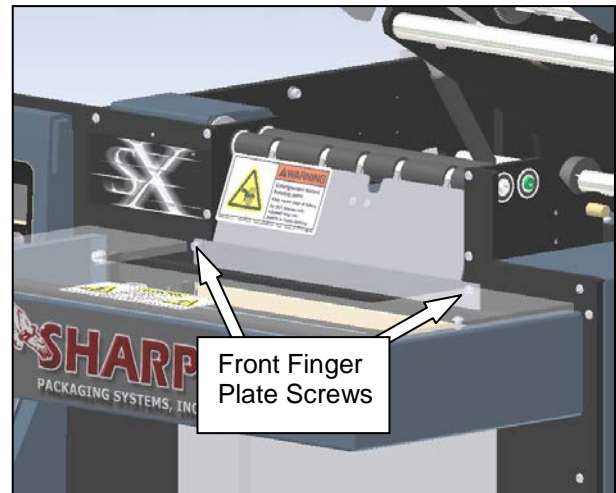

Figure 3-177. Front Finger Plate
- Remove the front finger plate from the machine. **Do not pull the plate away from the machine too quickly, as the photoelectric eye is attached to the plate and wired to the machine.** Gently place the plate under the rollers, ensuring the sensor wire is not excessively pulled (Figure 3-177).